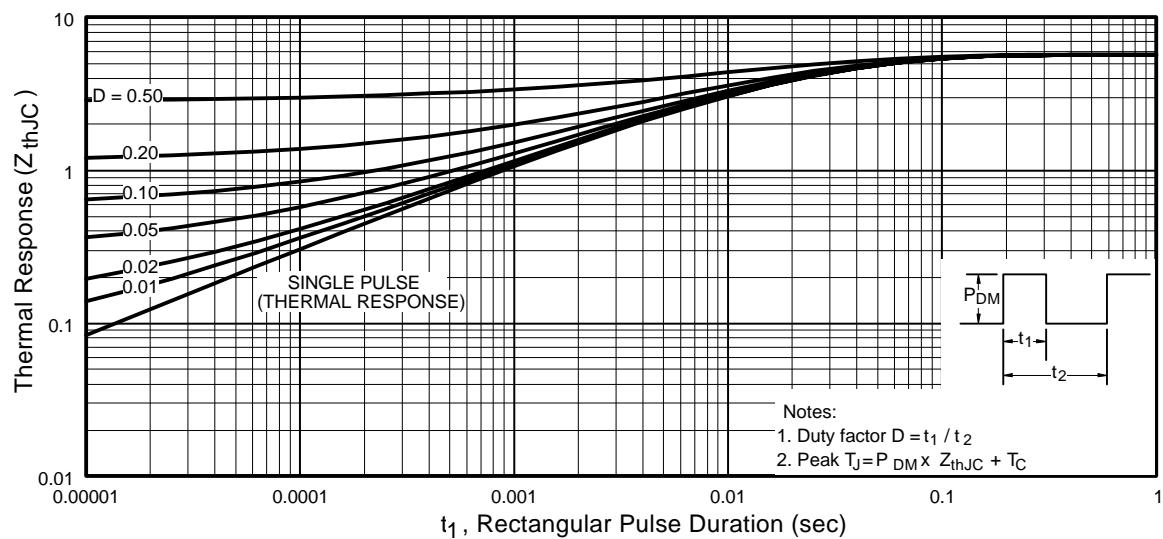

Fig 11. Maximum Effective Transient Thermal Impedance, Junction-to-Case
- ① Repetitive rating; pulse width limited by max. junction temperature. (See fig. 11)
- ② Starting $T_J = 25^\circ\text{C}$, $L = 300\mu\text{H}$